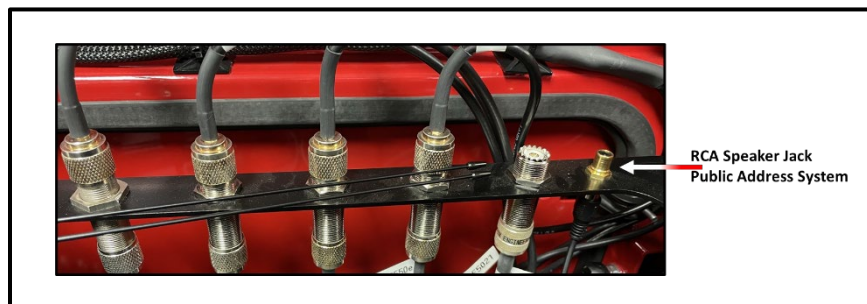

Figure 6. RCA Speaker Jack Location
- f. Connect the speaker assembly audio cable to the RCA speaker jack located on the far right of the antenna distribution assembly. The assembly is located just below the computer monitor on the top right of the Command Runner. Refer to Figure 6 for jack location.